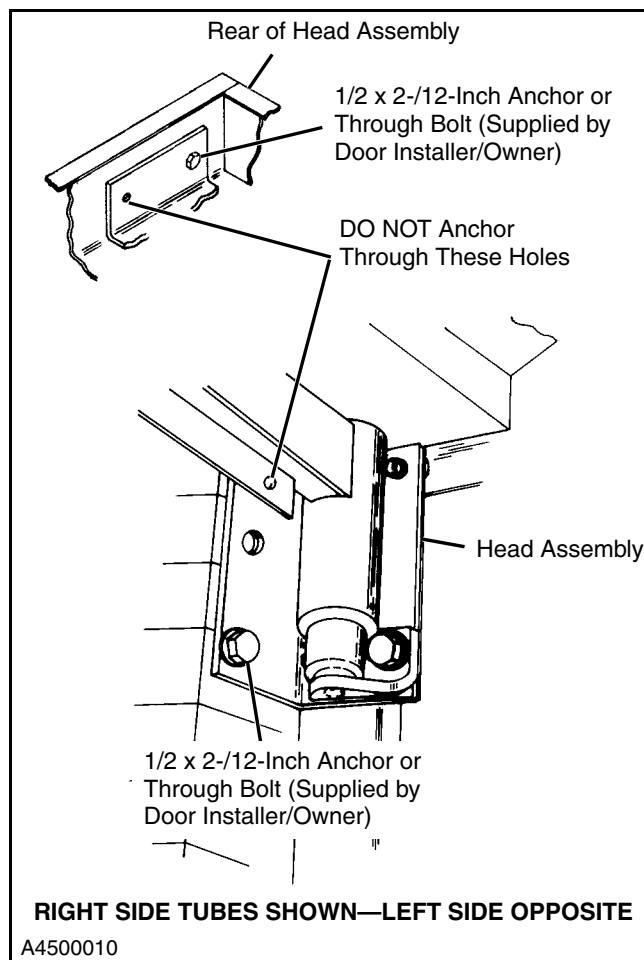

Figure 15
6. Anchor the head assembly to the wall as shown in Figure 15.